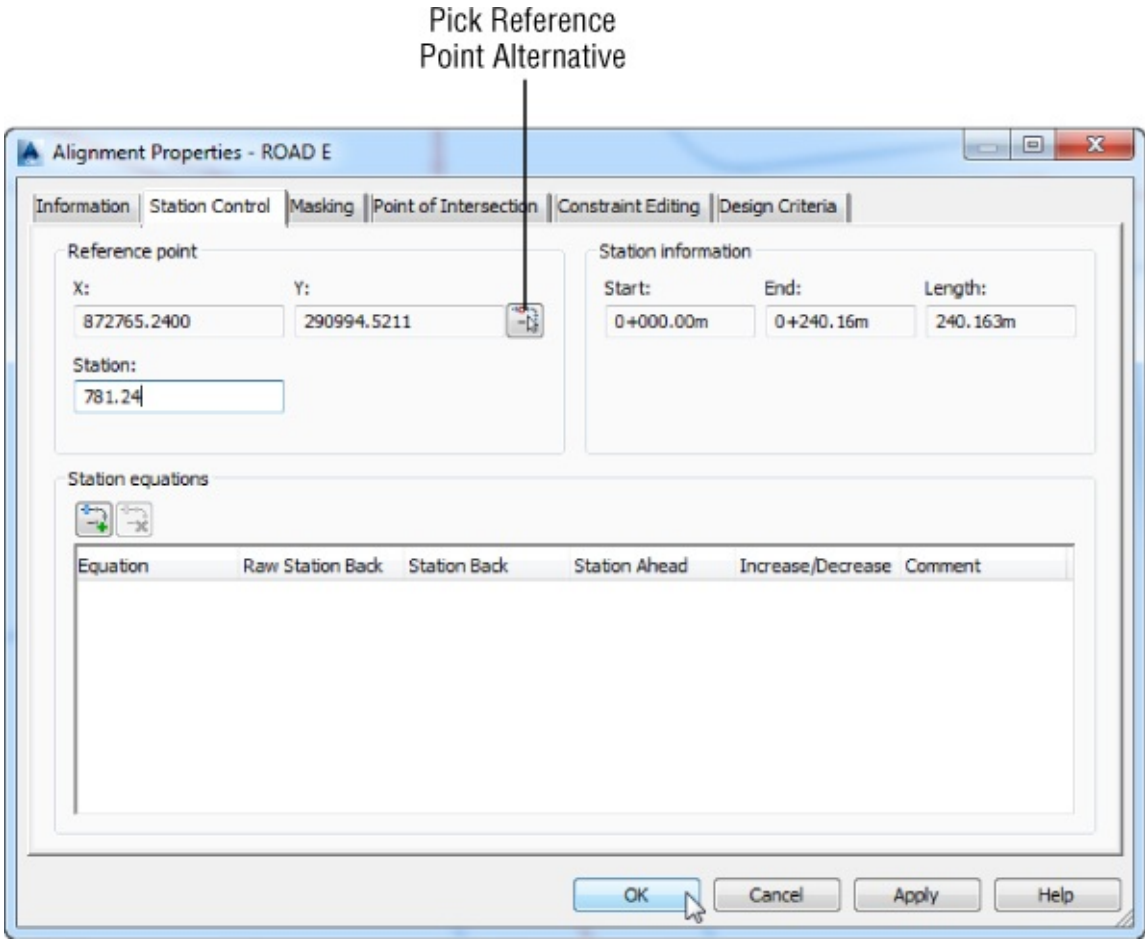

Figure 6.44 Setting a new starting station on the ROAD E alignment
9. In the Reference Point section of the dialog, enter **2563.13** (for metric, **781.24**) in the Station field (see Figure 6.44).
- In addition to changing the value for the start of the alignment, you could use the Pick Reference Point button, as shown in Figure 6.44, to select another point as the stationing reference point.